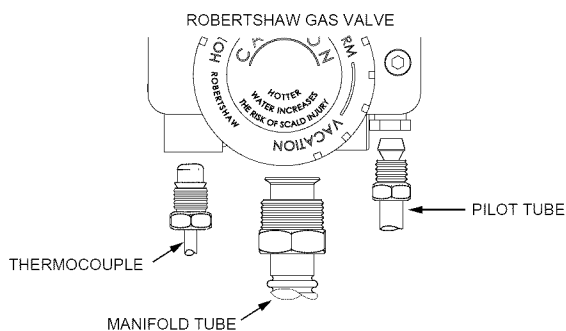

FIGURE 25.
5. Disconnect the thermocouple (right-hand thread), pilot tube, the igniter wire from the igniter button, and manifold tube at the thermostat. (Figure 25).
4. Disconnect the igniter wire from the igniter. **NOTE:** First remove the igniter from the bracket by depressing front and rear holding tabs and lift. Next remove igniter bracket from the gas control valve/thermostat. Disconnect the thermocouple (right-hand threads), pilot tube, and manifold tube at the gas control valve/thermostat (Figure 25).